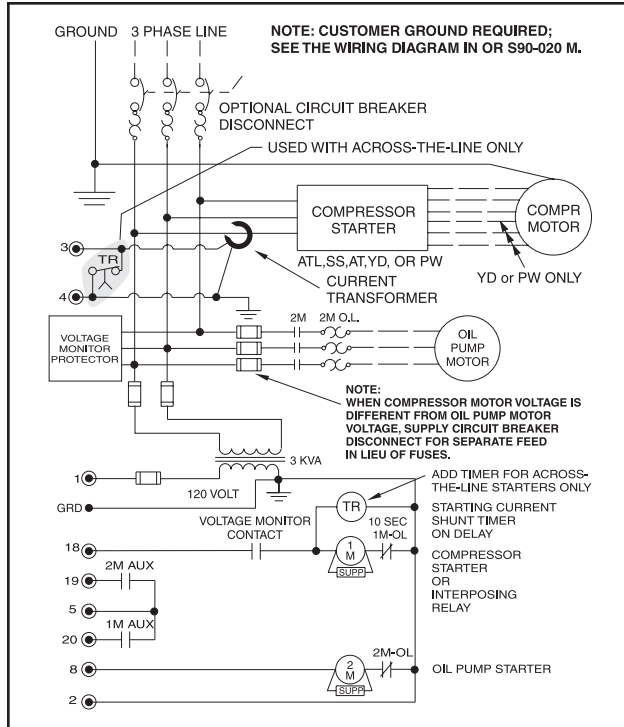

Figure 9 - Starter Wiring Diagram
CAUTION When starting at full voltage or across-the-line, a shunting device must be installed or the Analog I/O board in the Quantum™LX panel may be severely damaged at start-up. See Figure 9.
Motor starter and interlock wiring requirements are shown in the diagram, Figure 9. All of the equipment shown is supplied by the installer unless a starter package is purchased separately from Frick. Starter packages should consist of:
4. One normally open compressor motor starter auxiliary contact should be supplied and wired as shown on the starter package wiring diagram. In addition, the compressor starter coil and the CPT secondaries should be wired as shown on the starter package wiring diagram, Figure 9.